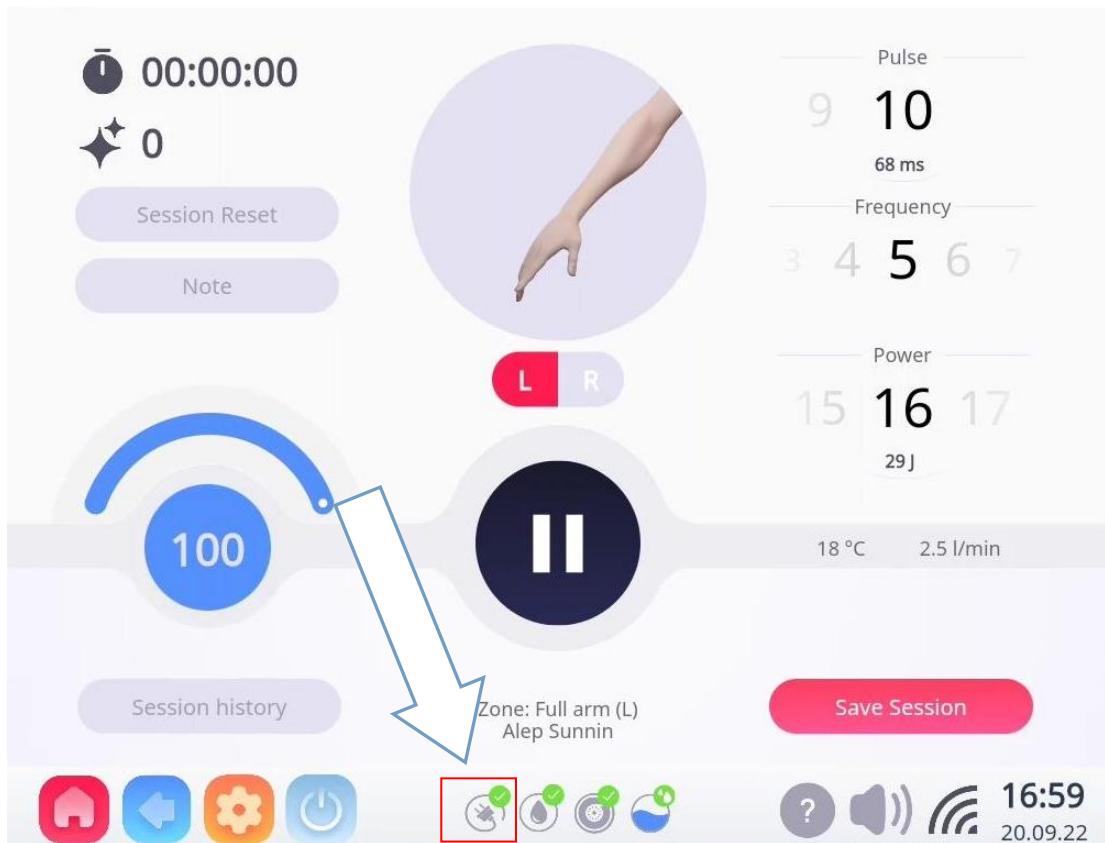

Figure 5.4-27
- Click "Handpiece check" to turn on and off the monitoring of the connection status of the handle, and the monitoring results are reflected in this position (see Figure 5.4-27). The factory default is on.